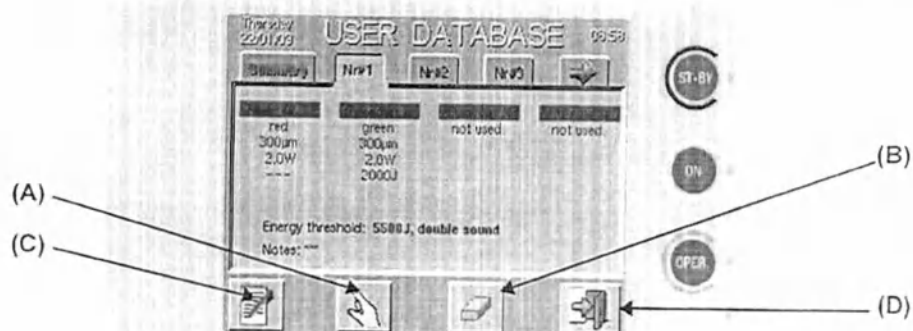

Fig. 22 - USER DATABASE: a program example
In order to recall a valid program, touch the (A) area in Fig. 22: apparatus displays the USER Menu showing parameters recalled from the selected program.
The area pointed by (B) in Fig. 22 allows to delete the program: in this case, apparatus asks to confirm the action.
The area pointed by (D) in Fig. 22 allows to go back to USER Menu without recalling any program.
touching the (C) area in Fig. 22 a keyboard is shown as in next figure:
If no notes are inserted, the message "****" is displayed next to "Note" field as, for example in Fig. 22 -.